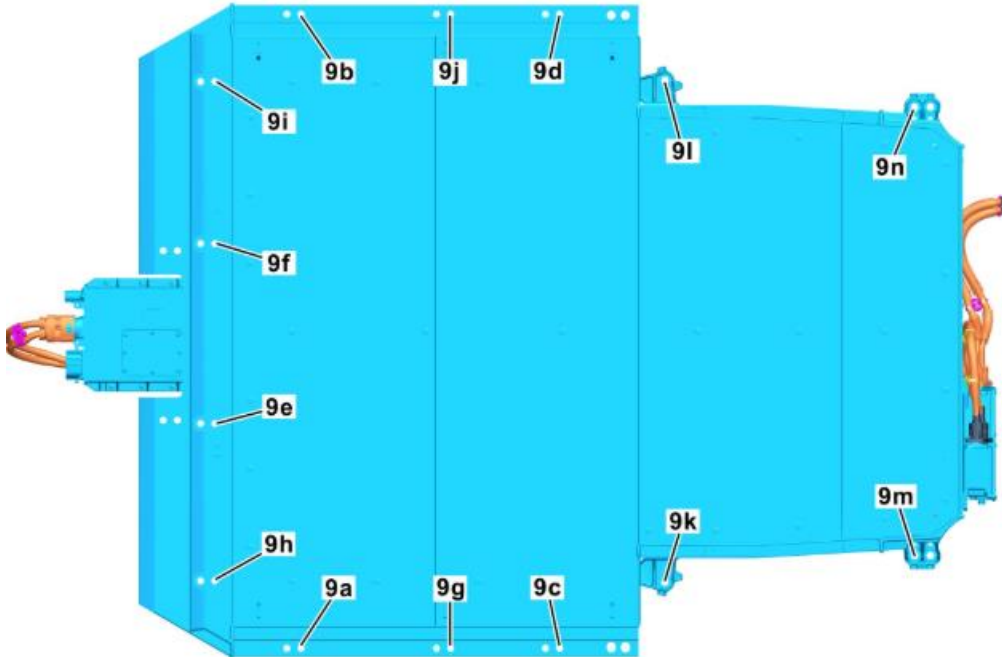

Figure 4
19. Unscrew **14 hexalobular screws (Figure 4, 9a-9n)** – *Single-use fasteners, must be replaced.*
36. Tighten new screws (Figure 4, 9a–9j) slightly by hand, remove drifts, torque to specification in alphanumeric order.
37. Position new screws (Figure 4, 9k–9n) in compensating elements, torque to specification in alphanumeric order.